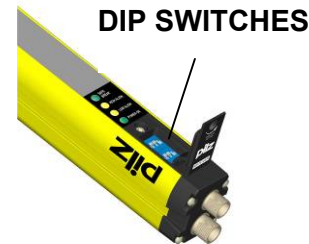

Abb. 22
On the front of the receiver (RX) there is a cover flap (Fig. 22), which is easy to open using a screwdriver and enables access to a row of DIP switches for the following configurations: